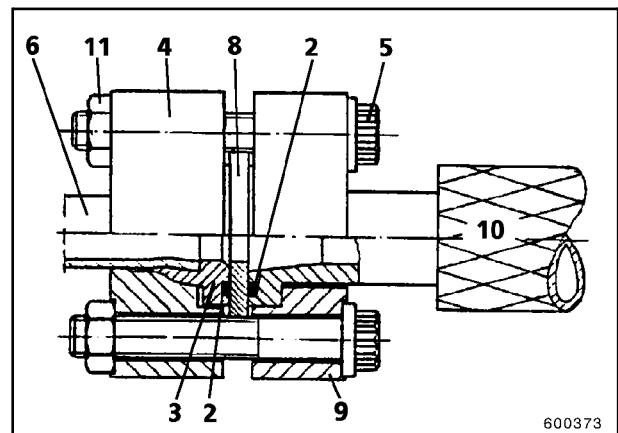

Fig. 3
¹⁾ If F-ring has a seal ring groove (3, Fig. 3), a centre disk (8) and a second seal ring (2) must be used.